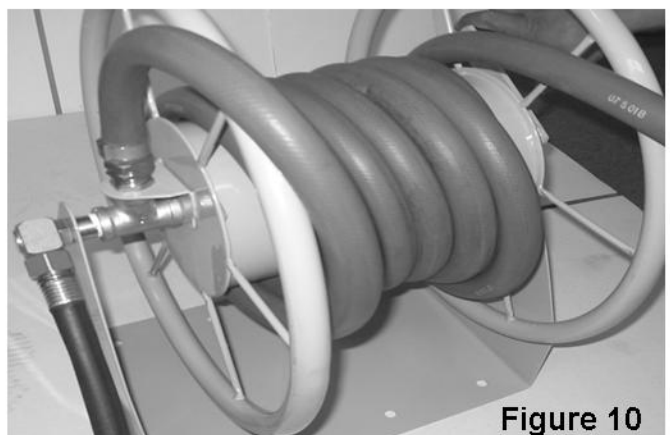

Figure 10
11. Attaching Your Garden Hose: Attach your hose to the galvanized tee. Loop the hose over the spool end to avoid kinking. See Figure 10.
1180 model not shown in Figure 10